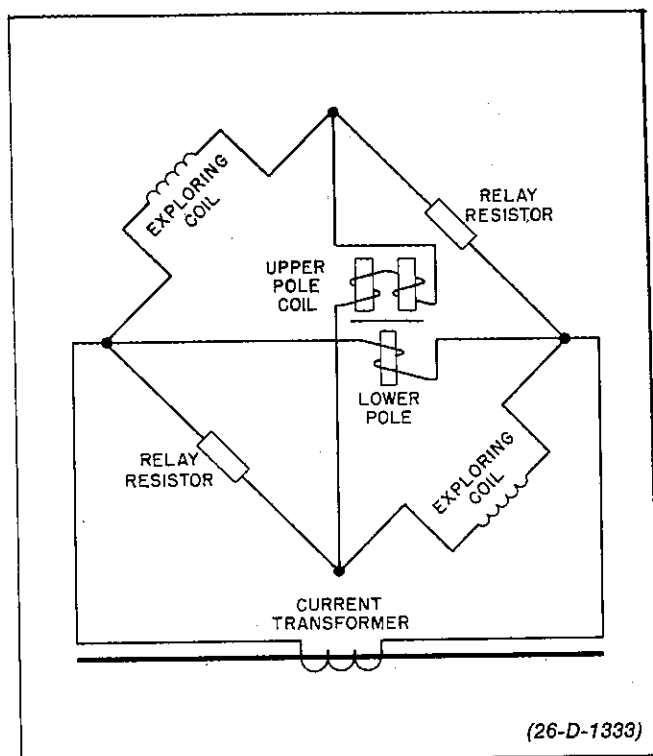

Fig. 1. Schematic Diagram of the Internal and External Connections of the Type CT Relay.
- ⊕ The relay is connected as a Wheatstone Bridge to the protected apparatus as shown in Fig. 1. Since the impedance of the bridge is resistance, and that of the lower pole winding reactance, there is sufficient phase displacement between the currents in the two windings of the relay to give a positive torque to the disc.